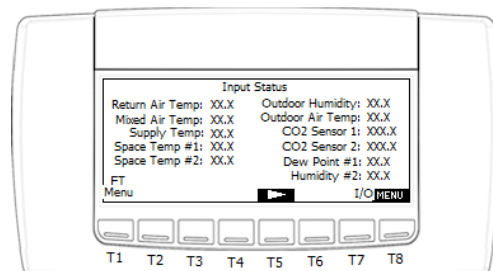

Figure 10. i-Controller Input Status Screen Page 1
**NOTE:** Visograph screens in (Figure 10 – 13) do not represent actual values. These images are only for illustration purposes.